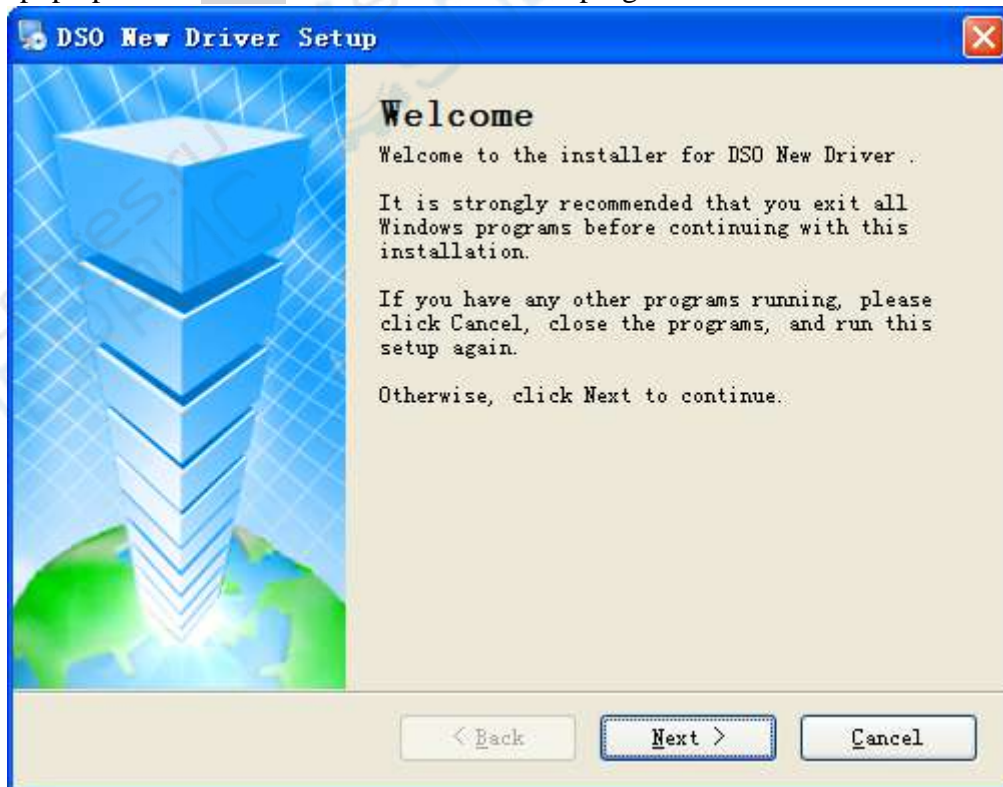

Fig.1-9
Step 2: Double click DSO New Driver to run it. An installation prompt (Fig.1-9) will then pop up. Click **NEXT** to enter the automatic program installation interface.